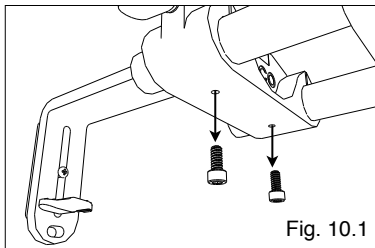

Fig. 10.1
1. Unscrew the two cap screws underneath the Sled as show in Fig. 10.1.